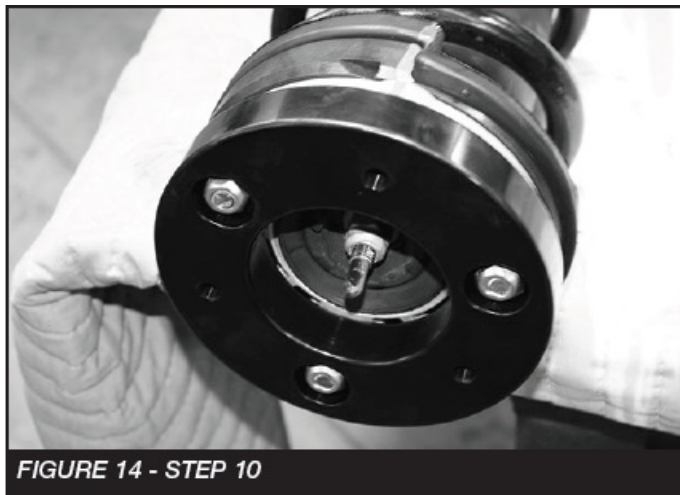

FIGURE 14 - STEP 10
10. Install the FT20275 (Spacer) onto the top of the Coilover using the supplied M10-1.5 nuts and flat washers. Torque to 35 ft-lbs. SEE FIGURE 14